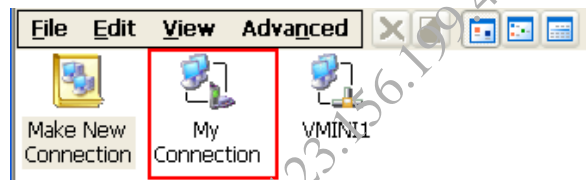

Figure 4-8
9. Double-click the **"My Connection"** icon in Figure 4-8, to enter the dialup interface as shown below.